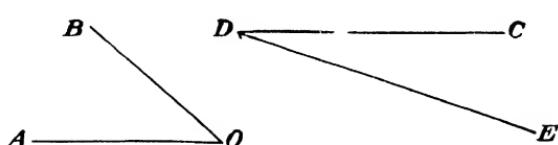

Fig. 117.
In your notebook draw two angles as shown in Fig. 117.
- 2.** Divide $\angle CDE$ in Fig. 117 into four equal parts. Check the results.